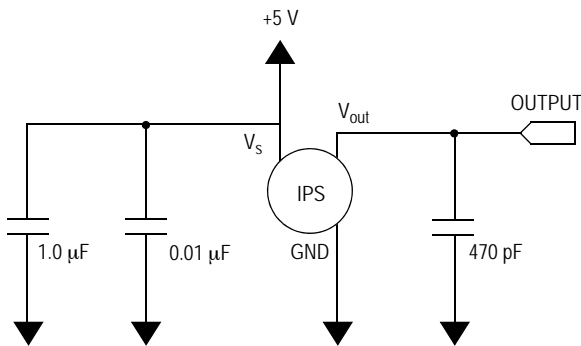
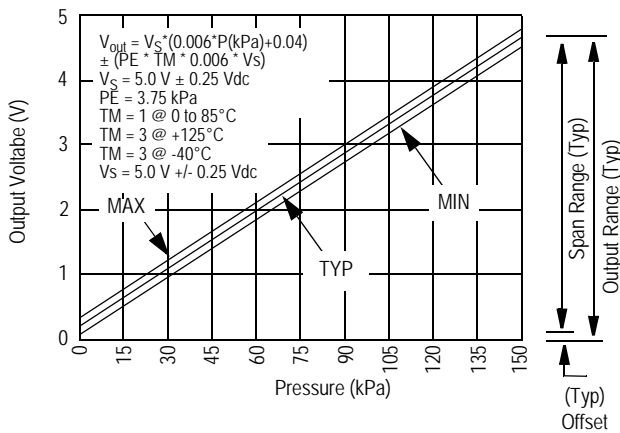

Figure 3. Recommended Power Supply Decoupling and Output Filtering
Figure 4. Output vs. Pressure Differential
**Table 1. Operating Characteristics** ( $V_S = 5.0$  Vdc,  $T_A = 25^\circ\text{C}$  unless otherwise noted,  $P_1 > P_2$ . Decoupling circuit shown in Figure 3 required to meet electrical specifications.)
Figure 4 shows the sensor output signal relative to pressure input. Typical, minimum, and maximum output curves are shown for operation over a temperature range of 0° to 85°C using the decoupling circuit shown in Figure 3. The output will saturate outside of the specified pressure range.
Figure 3 shows the recommended decoupling circuit for interfacing the output of the integrated sensor to the A/D input of a microprocessor or microcontroller. Proper decoupling of the power supply is recommended.